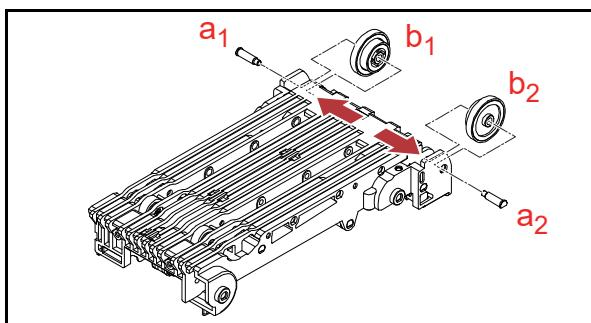

**Figure 4-47** Timing Belt Removal (RT Rear Transport Unit) 8
10. Remove the single (1) Pulley Pin (Figure 4-47 a) and the single (1) the Gear Pulley 2 (Figure 4-47 b).
11. Remove the Timing Belt 40-S3M-324CL (Figure 4-47 c).